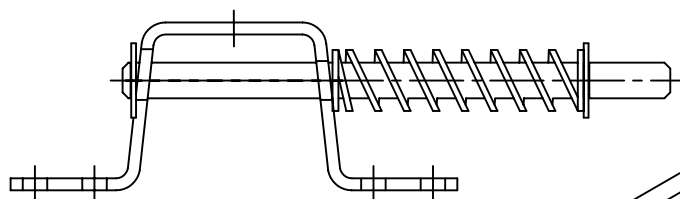

FIGURE 3
7. Place hood on a table or clean floor, place the base of the balometer inside the opening. Pull the hood over the base. Rotate the hood assembly until the metal cups are above the spring-loaded pins. (fig.3)